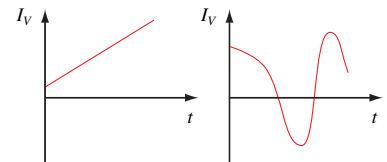

Figure 1.16: Volume currents as functions of time. Currents can change slowly or quickly, they can be positive or negative.
Volume current. The volume current (or volume flux, or simply flow) describes the flow of a fluid through pipes or other channels. The current allows us to calculate how much fluid is transported in a given period of time. The unit of volume current is m^3/s . We use the symbol I_V to denote a flow of fluid, i.e., a volume current. In processes, the flow is a function of time (Fig. 1.16).
22. Describe the current shown in the diagram on the right in Fig. 1.16.
Transported volume. If we know a volume current as a function of time (Fig. 1.16), we can determine the volume of fluid transported or exchanged with this flow (Fig. 1.18, symbol V_e). Graphically, the transported volume corresponds to areas between the function $I_V(t)$ and the time axis for an interval of time from, say, t_1 to t_2 . The mathematical operation is called integration of the current over time: